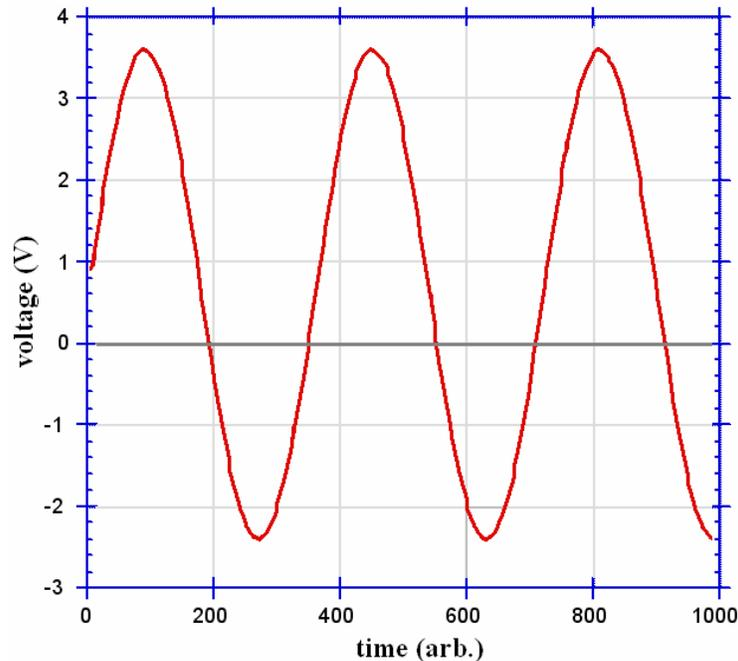

Figure 2: A 3 V sine wave (6 V peak-to-peak) with 0.6 V DC offset.
1. *Scope Coupling:* For the remainder of the experiment use the special probes to connect inputs to the DPO. As noted above, these inputs can be AC or DC coupled. Suppose you started with a sine wave that is shifted vertically in voltage (i.e., DC offset) so that it is no longer centered on zero. The AC coupling removes the shift, so that the signal looks like a sine wave centered on zero. Add some DC offset to the function generator output to create a shifted sine wave. Now switch your DPO between AC and DC coupling. Observe the effects on the scope. Figure 2 shows a sine wave with such a DC offset.